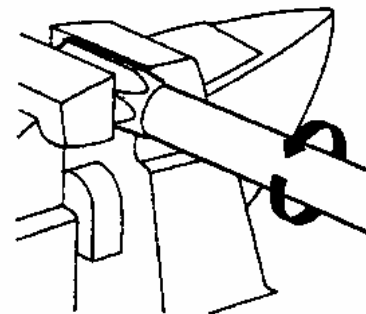

Figure 2. Low- and Medium-Pressure Hose Insertion
g. Insert hose into socket, using a twisting, pushing motion until hose bottoms out against socket threads. (Figure 2)